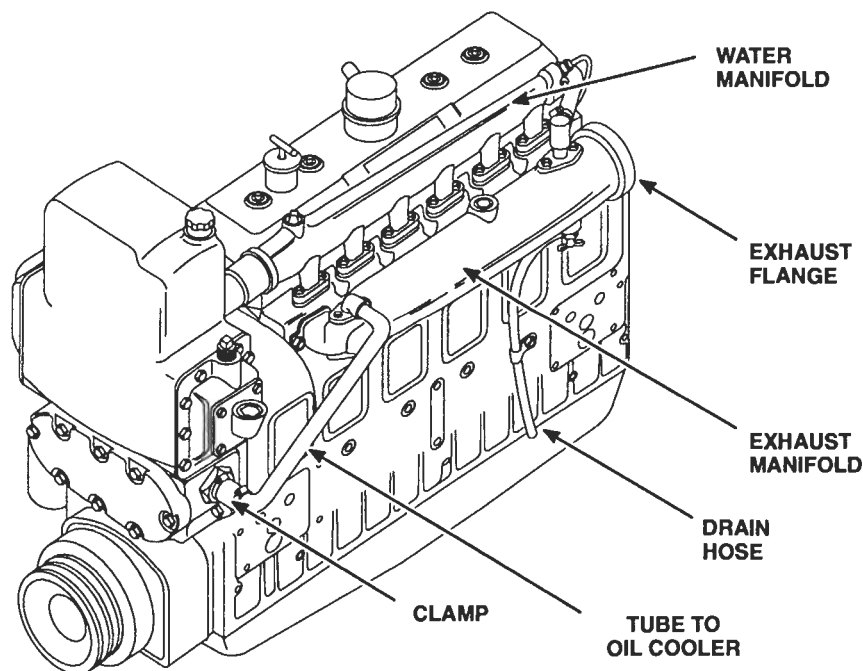

Figure 1. Water-Cooled Exhaust Manifold Mounting
2. Loosen the two hose clamps (Figure 1.) and remove the water inlet hose.